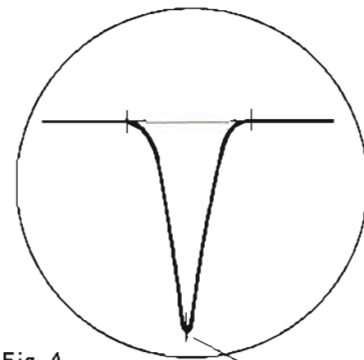

Fig. 4
- (1) With the receiver set to a high receiving frequency (variable capacitor in full open position), adjust T302 and T303 until the IF waveform becomes maximum.
- (2) If, in this case, the adjustment is difficult because of disturbing signals, the variable capacitor may be turned to facilitate the adjustment.
- (3) The waveform displayed on the alignment oscilloscope is as shown in Fig. 4.